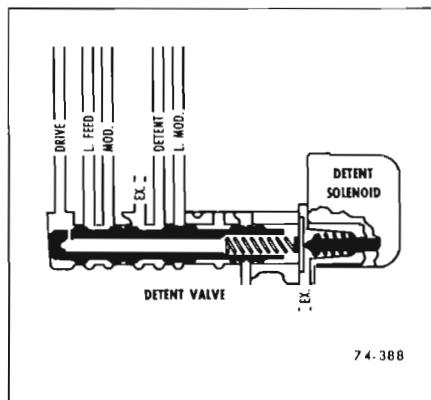

Figure 74-17—Detent Valve
**i. Detent Valve (See Figure 74-17)**